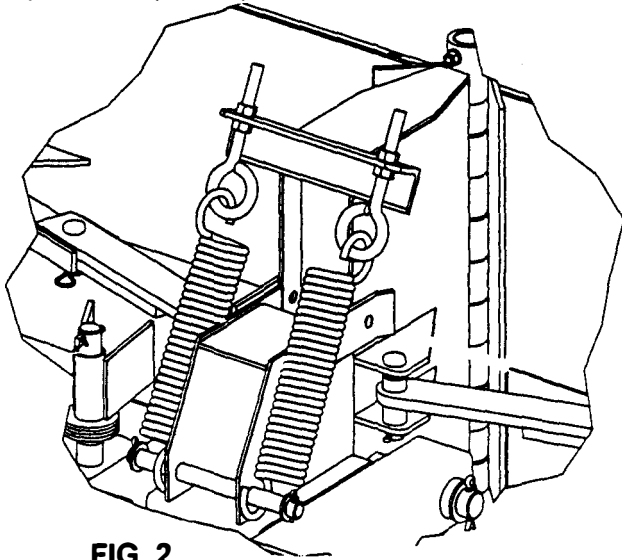

FIG. 2
1. Adjust the spring tension according to the type of material to be moved. (Note: Moving snow requires less tension than moving loose dirt.) If the blade trips too easy, loosen lower nut and tighten top nut to desired tension. If the blade trips too hard, loosen top nut to desired tension, and tighten lower nut. Nuts must be tightened to prevent movement during operation. (FIG. 2)